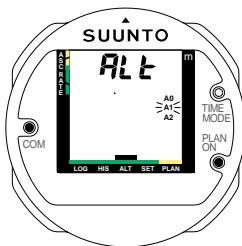

Fig.4.8 PERSONAL/ALTITUDE ADJUSTMENT SETTING, STEP 2
2. Connect the PLAN/ON and COM contacts until all three personal/ altitude adjustment modes appear. Release your fingers immediately at this point. The current mode is now blinking (Fig. 4.8). Wait at least two seconds but not more than four seconds before the next step.